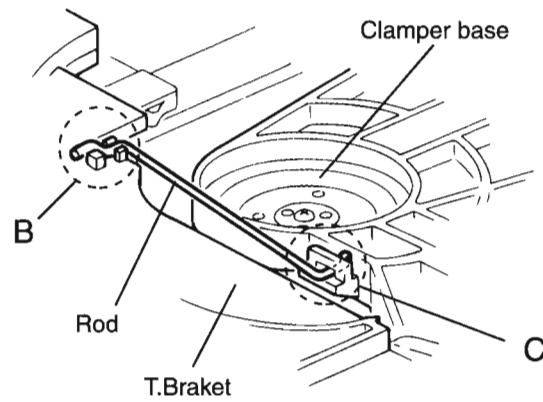

Fig.2
(See Fig.2~4)
4. From the T.bracket section "B" and clamber base section "C", remove both of the edges fixing the rod(See Fig.2 and 3).